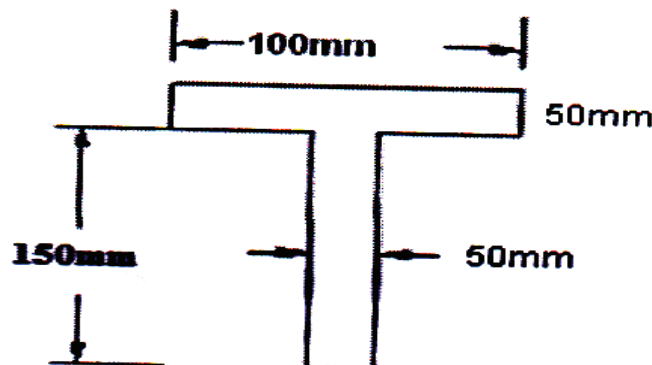

Figure 1.1
- b)** A simply supported beam 7m span carries u.d.l. of 5kN/m over entire span. Find the maximum bending stress induced if the cross section is as shown in Fig. 1.1. [6]